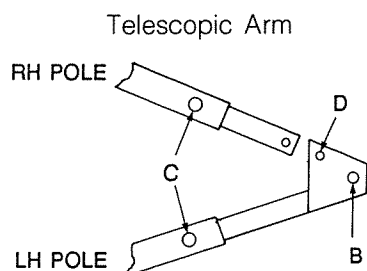

Figure 13
- Separate the Hitch Poles by removing pin D (See Fig. 13)
(a) Split hitch poles. (See Fig. 13, Page 4.2).
(c) Remove Pin C. (See Fig. 13). Connect L.H. Pole to the cultivator.